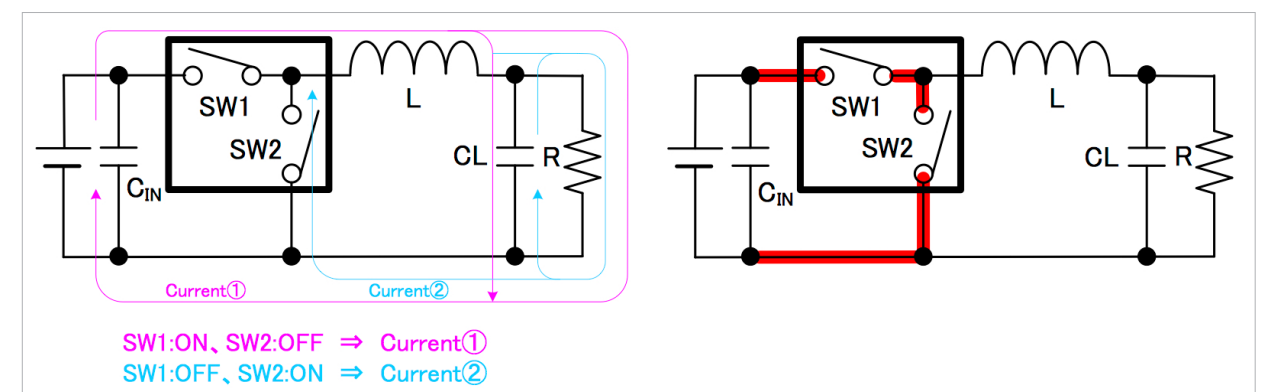

Figure 5 (L): Current Path of Step-Down DC/DC Converter and Figure 6 (R): Step-Down DC/DC Converter Noise
very difficult. It is not a matter of simply making connections, because if the connection positions and board layout are bad, the performance of the entire system will be degraded. For example, a step-down DC/DC converter alternately switches switch 1 (SW1) and switch 2 (SW2) ON/OFF, controlling the currents in order to stabilize the output voltage. The currents that flow when this is done are Current (1) and Current (2) (refer to Figure 5).